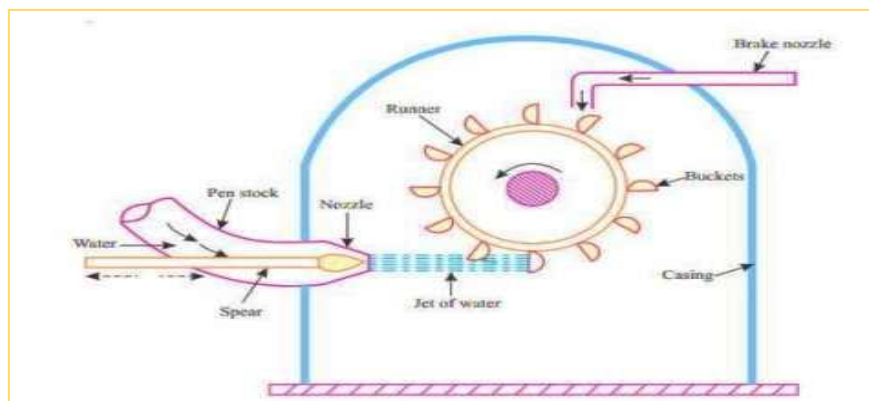

Figure 6: Schematic diagram of a Pelton turbine
- Note the Speed of the turbine, manometer readings (h_1 & h_2) shown in figure 6.